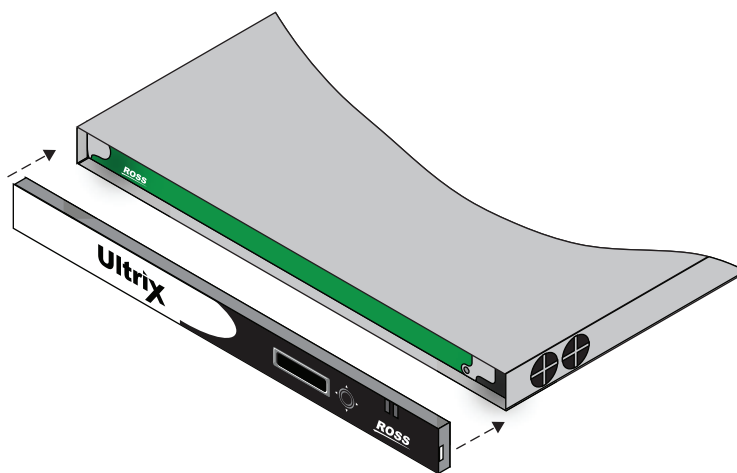

Figure 7 Front Panel — Aligning the Door to the Chassis
1. Align the door to the front of the router, ensuring that the door is oriented upright, the corner with the Ultrix logo is in your left hand, and the corner with the Ross logo is in your right hand. (**Figure 7**)